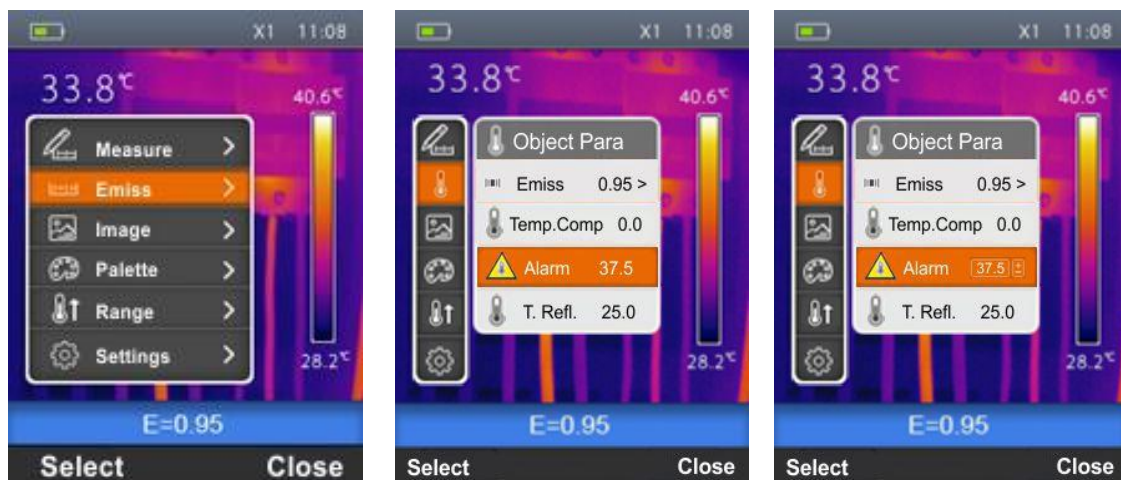
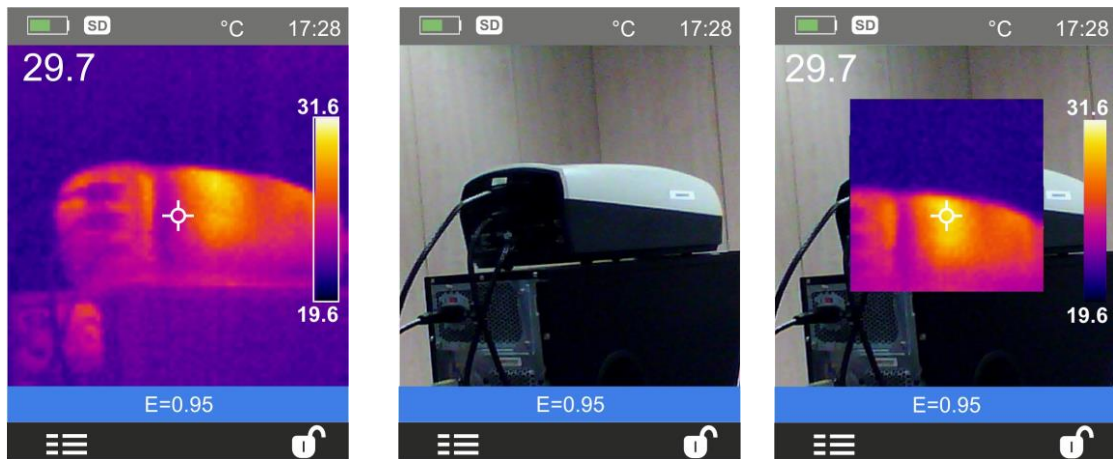

Fig. 20: Setting temperature compensation on the instrument
Fig. 23: Image display modes
1. Select the item "Emiss" with the keys \oplus or \ominus and press the key . The screen Fig. 20 – Central part is shown on the display.
2. Use the keys \oplus or \ominus to select the item "Alarm" and press the key "Select". The screen Fig. 20 – Right side is shown on the display
2. Use the keys \oplus or \ominus to select the desired display mode among the options: **IR** (infrared image), **Visual** (visual image), **MIX** (fusion of IR image into the visual one) (see Fig. 23) and **AUF** (Auto Fusion function – see § 5.2.4.1) (see Fig. 20)